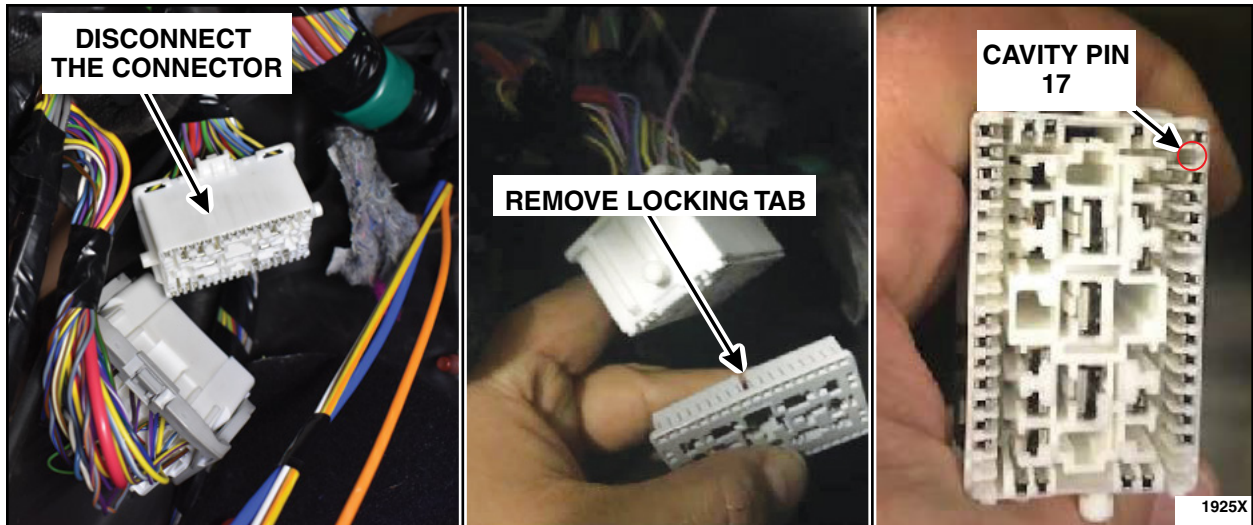

FIGURE 25
27. Locate connector C237, disconnect the connector, remove the locking tab and locate cavity pin 17. See Figure 25.